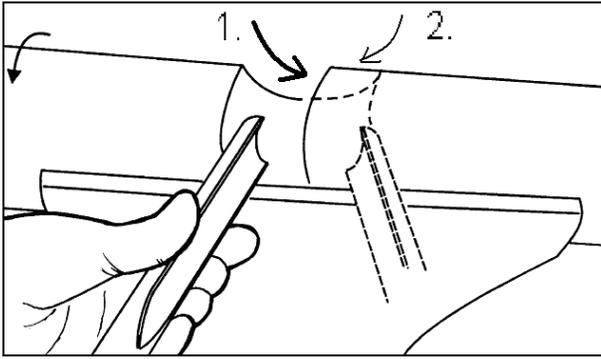

Fig 17
**Gouge (A, Fig 16)**, used for rapidly cut raw wood into round stock, for turning bowls and plates, for turning beds, coves and other detail (Fig 17).